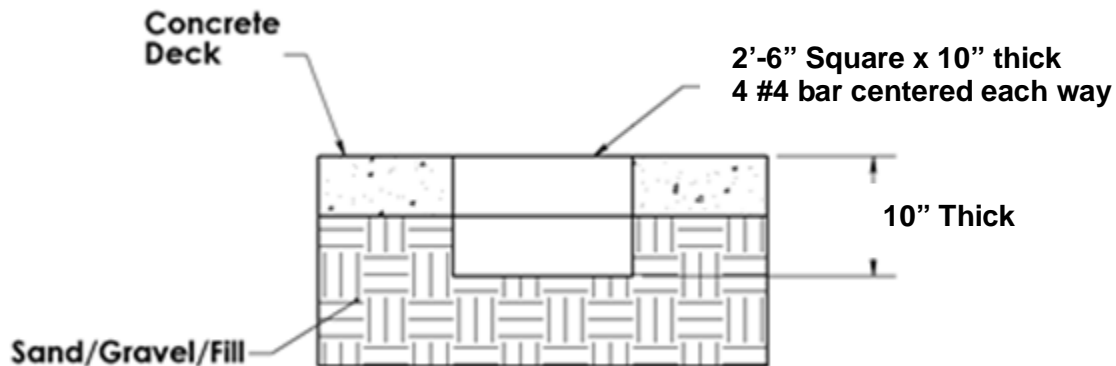

Figure 1
- b. Use a concrete cutting saw; cut the square out of the existing concrete deck. Using a heavy/sledge hammer to break the cut section of concrete – remove the section of concrete from the deck. See Figure 1.